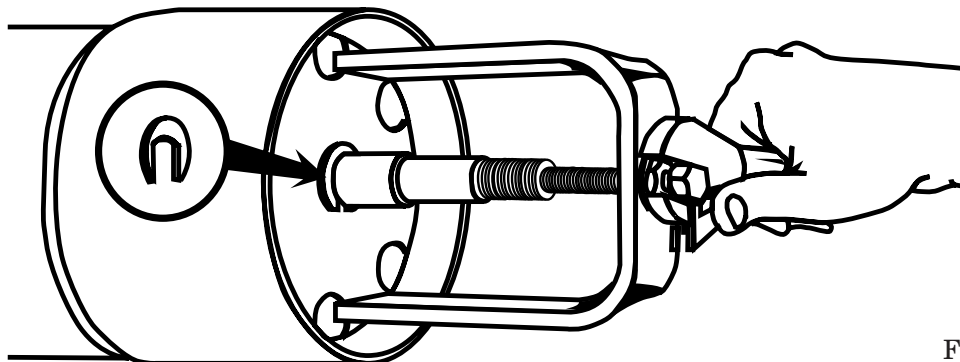

Fig. 1.
6. Adjust nut as shown in Fig. 1. Turning the center screw adjusting nut clockwise will push downward on the lock plate- allowing easy removal of the clip.